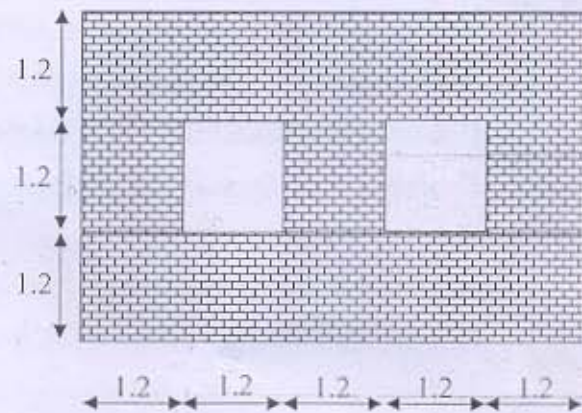

Figure 4 (All dimensions are in meter)
- (a) Determine the rigidity of the shear wall as shown in **Figure 4**, in terms of Et.